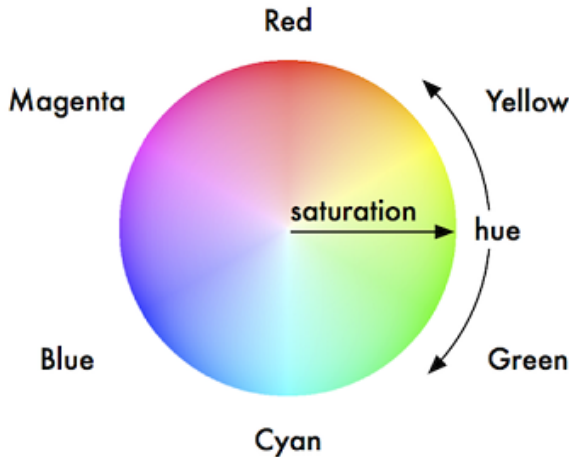

Figure 2.6. The HSI Colour Wheel
**Hue:** This is the term used to specify the colours position in the possible range a colours, from red, going through yellow, green, cyan, blue and magenta, and finally returning to red. As the range 'wraps around', you can visualise it as a circle with the colours positioned around the edge, with red at the top, green at the lower right, blue at the lower left, and the intermediate colours in between. The angle between 0 and 360 degrees specifies the hue of the colour: red has a hue of 0 degrees, yellow has a hue of 60 degrees, and cyan has a hue of 180 degrees; see *Figure 2.6, "The HSI Colour Wheel"*.